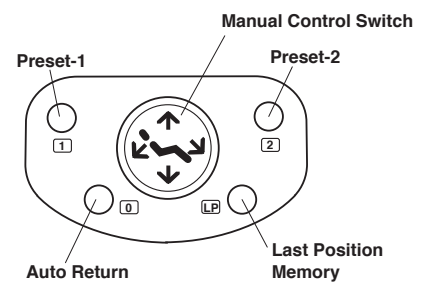

Fig.4-1 Foot Control
(1) Preset position Adjustment (Fig.4-1)
(2) Mouth Rinsing Position Adjustment (Fig.4-1)